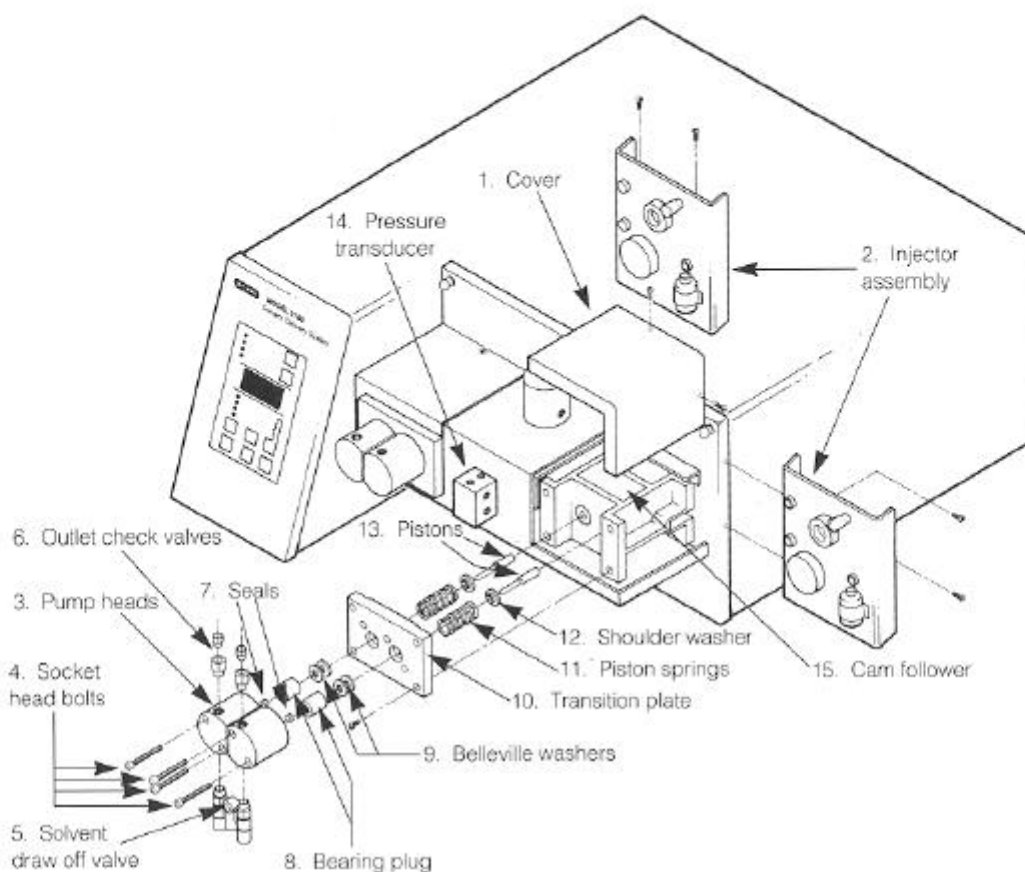

Fig. 11.1. Exploded view of the Model 2800 Solvent Delivery System.
2. The other end of the tubing connects to the injector assembly inlet. The injector assembly may be mounted next to or on top of the Model 2800 Solvent Delivery System. See Figure 11.1 for mounting details.
1. Remove the pump enclosure top (Figure 11.1, item 1) by removing the case screws and lifting off the cover.
2. Use a paper towel to wipe the cam surface and cam followers (Figure 11.1, item 15). This will remove some of the old lubricant.
1. For best visualization of the cam, cam followers, and pistons, remove the enclosure cover by removing the case screws and lifting off the cover (Figure 11.1, item 1).
2. Disconnect the solvent draw-off valve (Figure 11.1, item 5) and outlet tubes from the outlet check valves. Remove the inlet and outlet check valves.
11.3 Changing the Pistons (Refer to Figures 11.1 and 11.2)